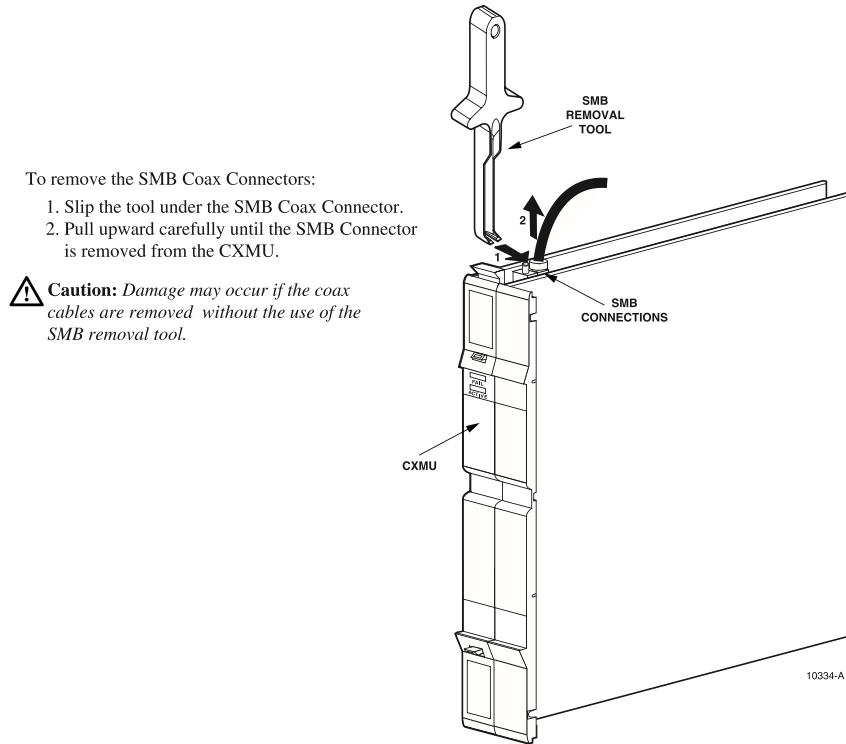

Figure 6-4. Removing Cables From The CXMU
6. **Note:** For CXMU removal, partially withdraw the unit from the mounting shelf and then disconnect the TX and RX coaxial cables using the special tool shown in Figure 6-4. Label cables if not labeled. Withdraw the CXMU from the shelf after cables are removed.